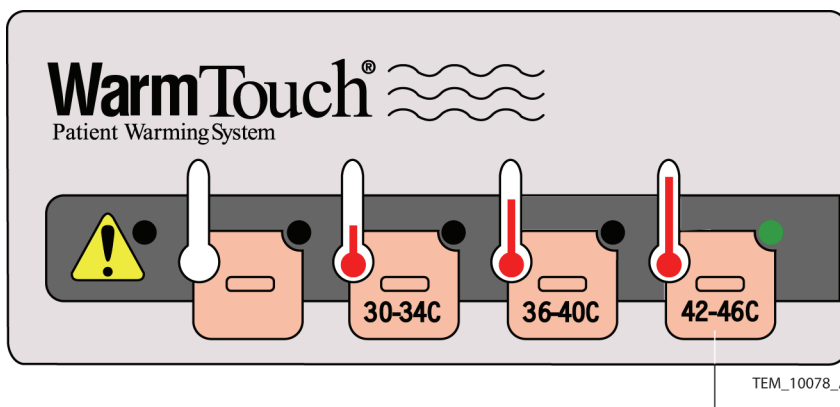

Figure 9. WT-5800 High Temperature Setting
11. Select the High (42-46C) temperature setting. See Figure 9.